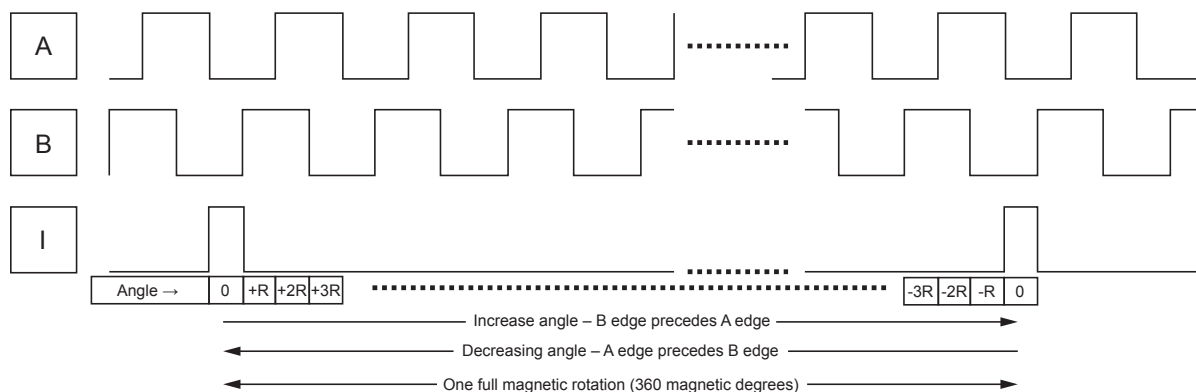

Figure 5: One Full Revolution
The AAS33051 offers an incremental output mode in the form of quadrature A/B and index (I) outputs to emulate an optical or mechanical encoder. The A and B signals toggle with a 50% duty cycle (relative to angular distance, not necessarily time) at a frequency of $2N$ cycles per magnetic revolution, giving a cycle resolution of $(360 / 2^N)$ degrees per cycle. B is offset from A by $1/4$ of the cycle period. The I signal is an index pulse that occurs once per revolution to mark the zero (0) angle position. One revolution is shown in Figure 5.